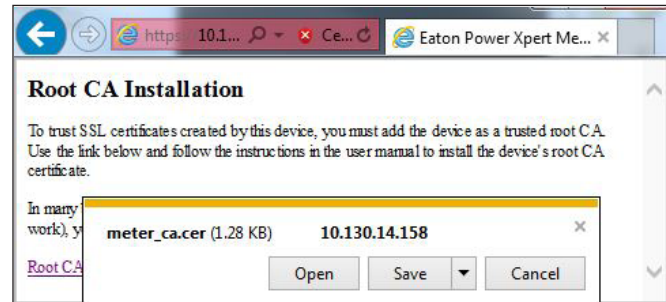

Figure 64. File Download Dialog Box.
3. Click the Open button (see Figure 64).